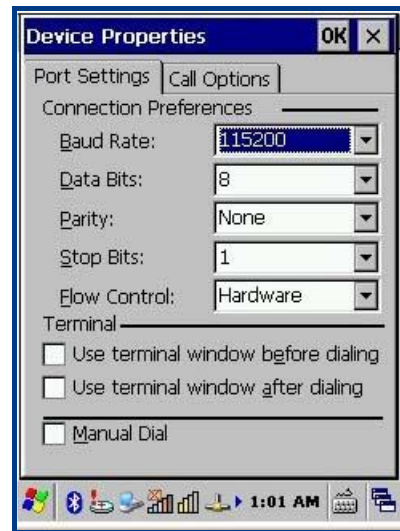

Figure 6.4: Port Settings
- D. Leave the Port Settings at their default values (Figure 6.4).